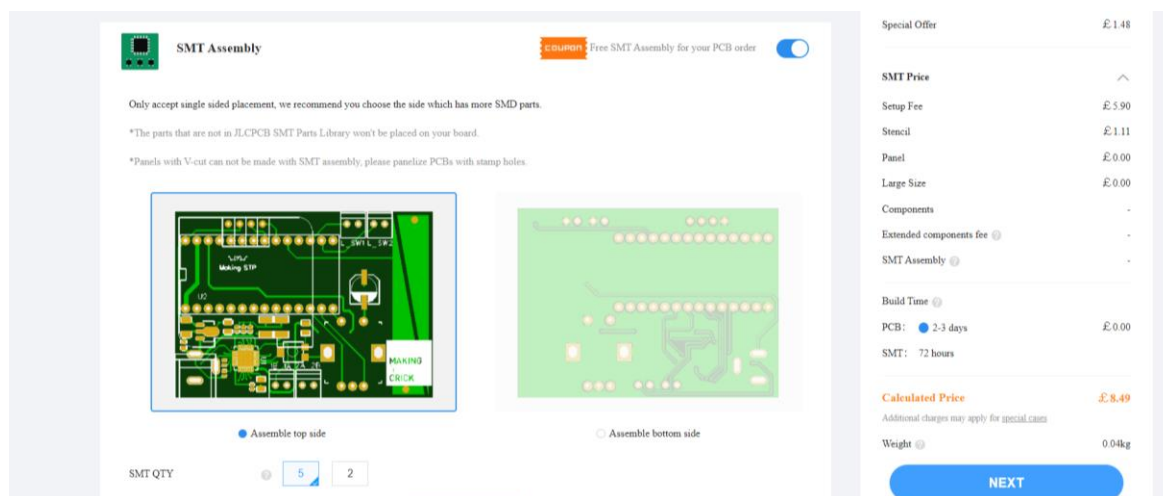

Figure 4: SMT selection.
- c. Scroll down on the same page and Select **SMT Assembly** (Figure 4).